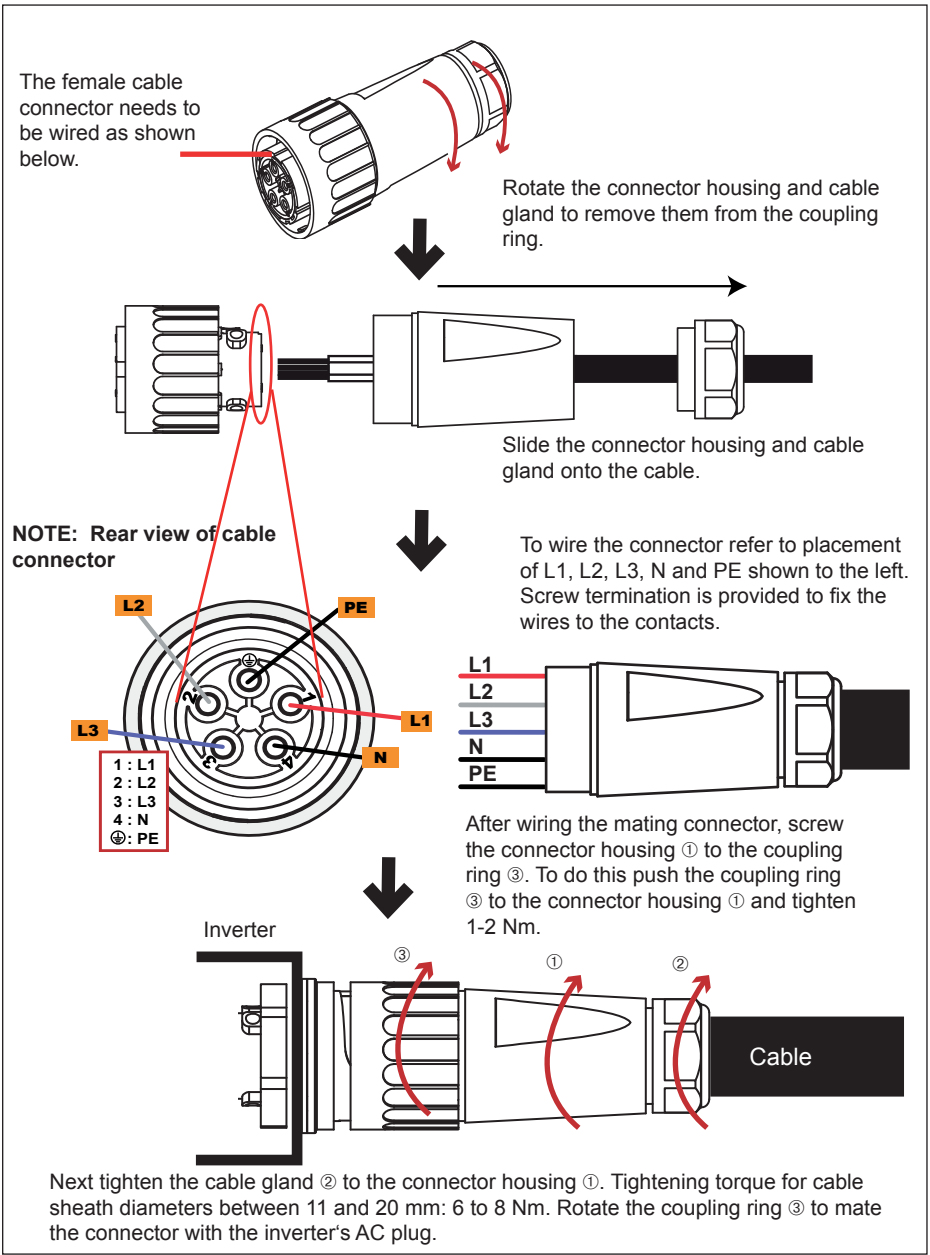

Figure 6.5.: AC connector 6.0 TL, 8.0 TL, 10 TL, 12 TL, 15 TL, and 20 TL
The AC bayonet connectors are approved for cable sheath diameters between 11 mm and 20 mm. To install an AC cable, first strip the voltage free line and cable ends as shown below and then follow the sequence in Figure 6.5 to assemble the cable and bayonet connector.
In Figure 6.5, the Amphenol C connector shown can be mated with the 6.0 TL, 8.0 TL / 10 TL / 12 TL / 15 TL / 20 TL inverter's AC plug. After disassembly of the connector, please adhere to the correct polarity for proper AC wiring (this product allows either positive or negative phase sequence). That means the sequence of L1-L3 can be adjusted and the N and PE must be connected.
- Observe the pin assignment of the AC bayonet connector. An incorrect assignment can result in the unit being destroyed. The Figure 6.5 pin out diagram shows the connections inside the AC connector.